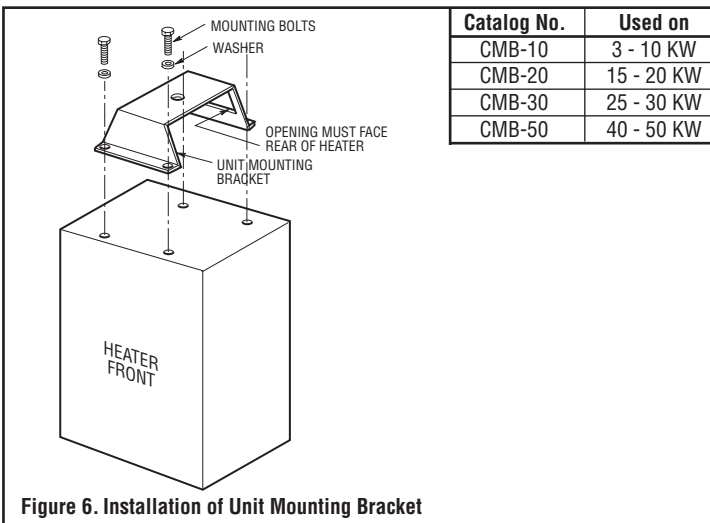

Figure 6. Installation of Unit Mounting Bracket
4. Remove four bolts and washers from top of heater and secure unit mounting bracket to top of heater using the four bolts and washers. (See Figure 6).